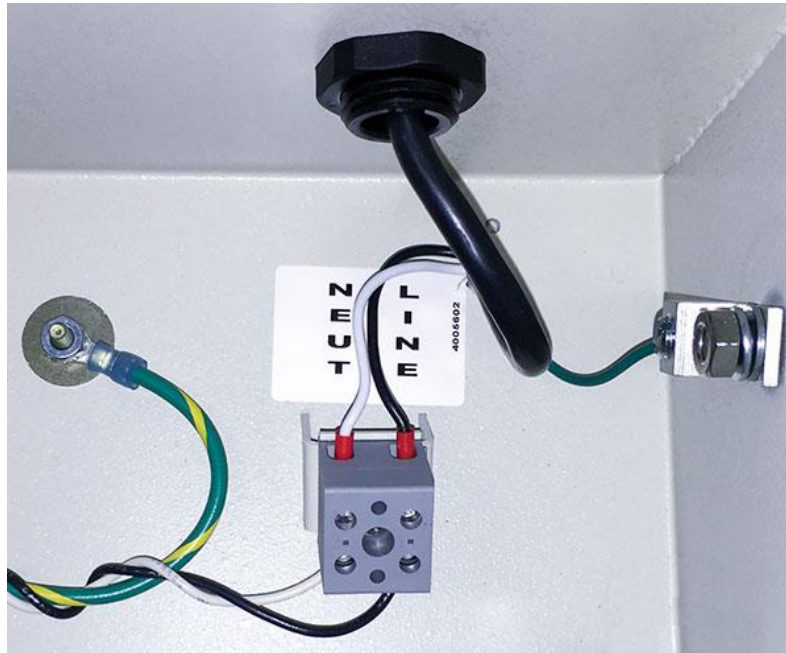

Figure 2-7. Wiring AC to Terminal Block, Inside Enclosure, Top Right
1. Find the AC terminal block at the top right corner of the back wall of the enclosure (see Figure 2-7).
3. Connect the AC input wires and ground wire as shown in Figure 2-7 and Figure 4 at the back of the manual. Make your ground connection as follows: